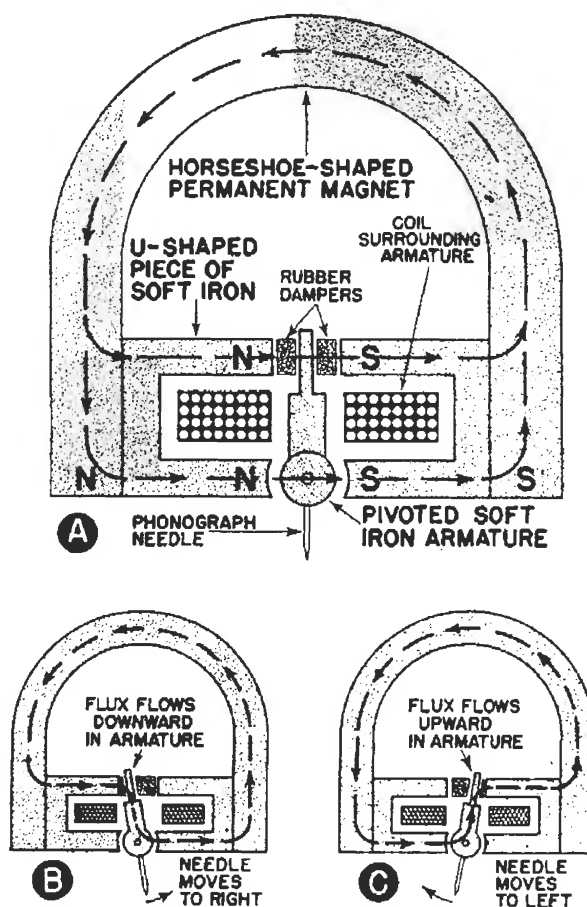

FIG. 35. Details of a magnetic pickup.
**Magnetic Pickups.** Fig. 35 shows the details of the operation of a magnetic pickup. Essentially, this consists of a permanent magnet, a coil, and an armature that can be actuated by the phonograph needle. As shown in this figure, motion of the needle from side to side directs the flux in opposite directions through the armature. Therefore, since the coil is essentially around